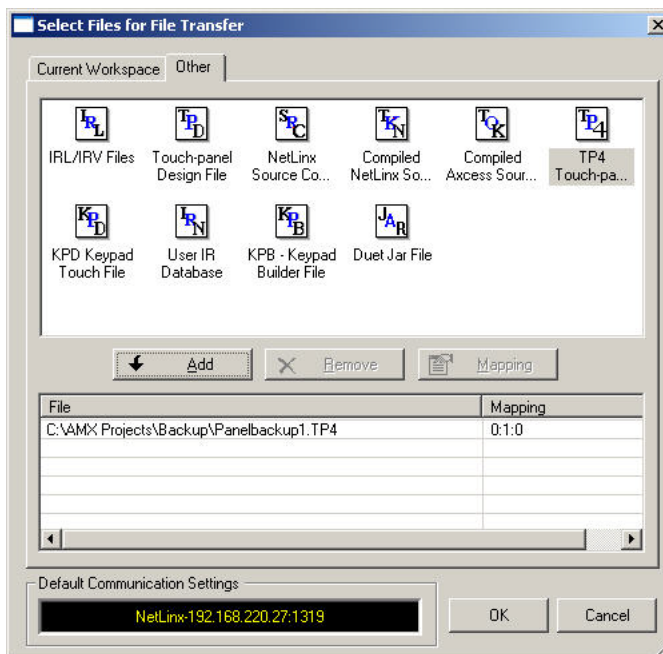

**FIG. 4** Enter Device Mapping Information dialog
5. Click **Open** to close this dialog and open the *Enter Device Mapping Information* dialog (FIG. 4).